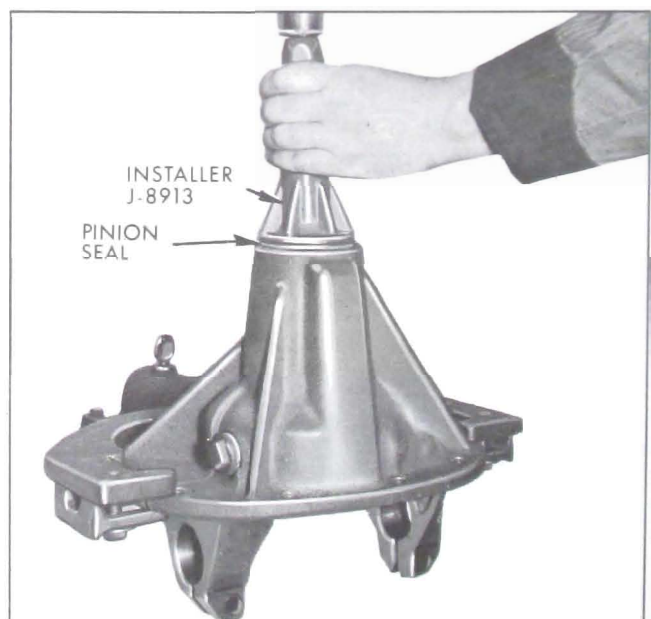

Figure 6-20—Installing Pinion Seal
5. Install new O-ring seal on pinion. Coat O.D. of new pinion seal with sealing compound and install seal using Installer J-8913. See Figure 6-20.